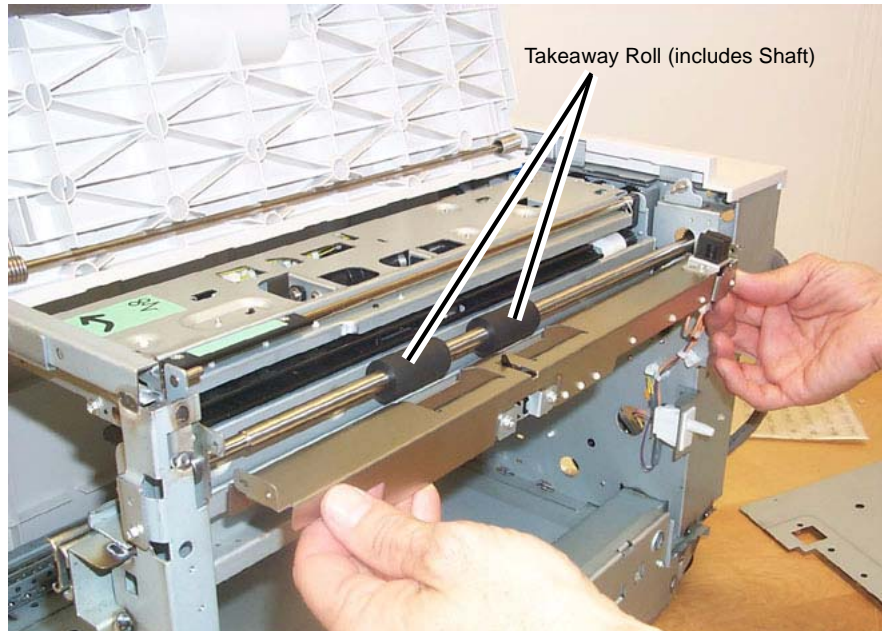

Figure 1 Removing the Lower Chute
4. Remove the Lower Chute (Figure 1).
- Remove the (2) securing screws.